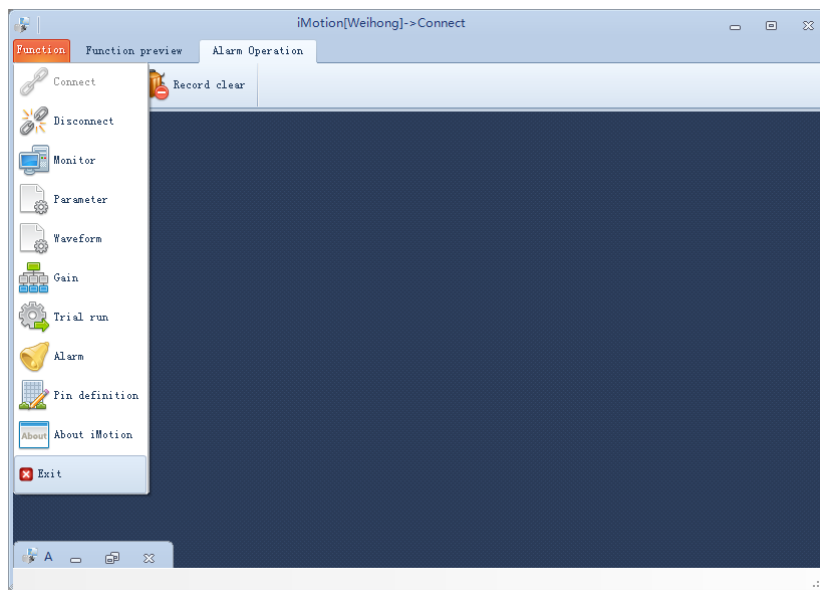

Fig. 2-1 Function list
- a) Start *iMotion*, click on tab [Function] to open up a function list, where you can enable corresponding function. See Fig. 2-1.